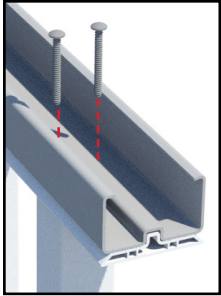

Fig. 8
- Take the top filler along with one of the aluminum reinforcements and start driving the 1.5" long pan head screws into the pickets. (See Fig. 8 below)